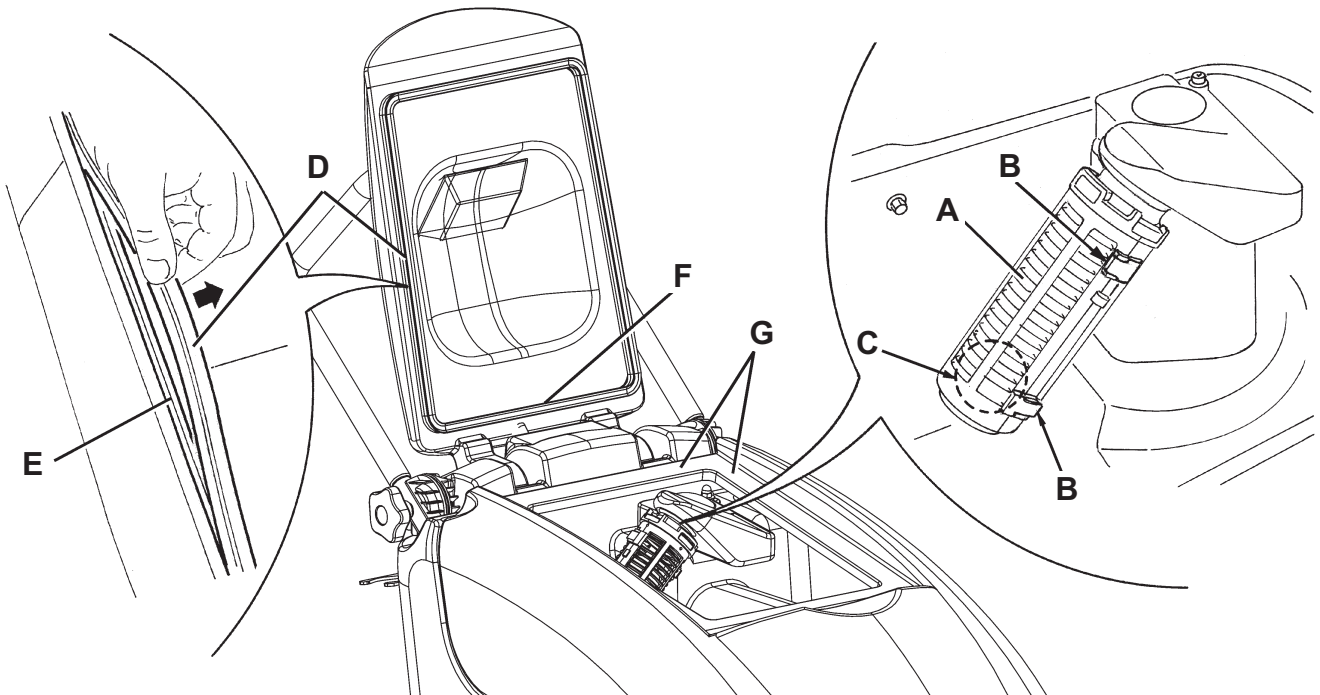

Figure 7
3. Open the cover (6), then clean and wash the cover, the tanks (31 and 32) and the vacuum grid (46) with clean water. Drain the water from the tanks with the drain hose (16) and the valve (18).
4. If necessary, release the fasteners (B, Fig. 7) and open the grid (A); recover the float (C), clean all the components and then reinstall them.
5. Check the recovery water tank cover sealing gasket (D) for integrity.